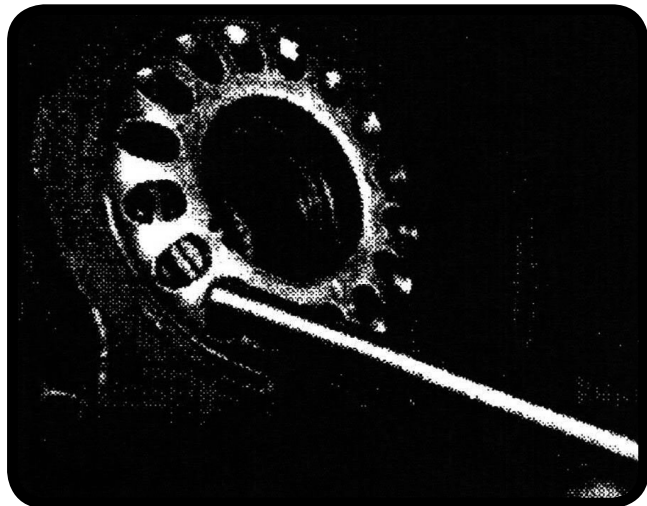

Figure 14
8. Use a spanner wrench or a blunt punch and a hammer to turn the second adjuster (the one away from the ring gear) one turn inward (clockwise) until the marked hole reaches its final position (in the middle of the cap just below the lock). The last portion of the turn should be difficult because pre-load is being applied to the bearings by spreading the caps apart as the adjuster is being turned in (**Figure 14**).